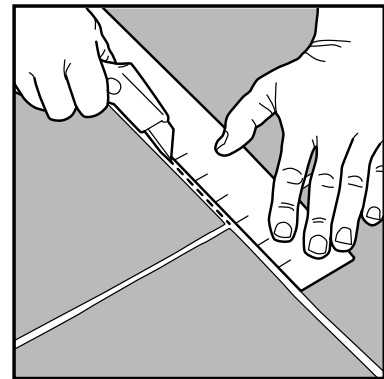

FIGURE 25
- Place a straight edge over the center of the grout line and cut the grout with a sharp utility knife (Fig. 25).